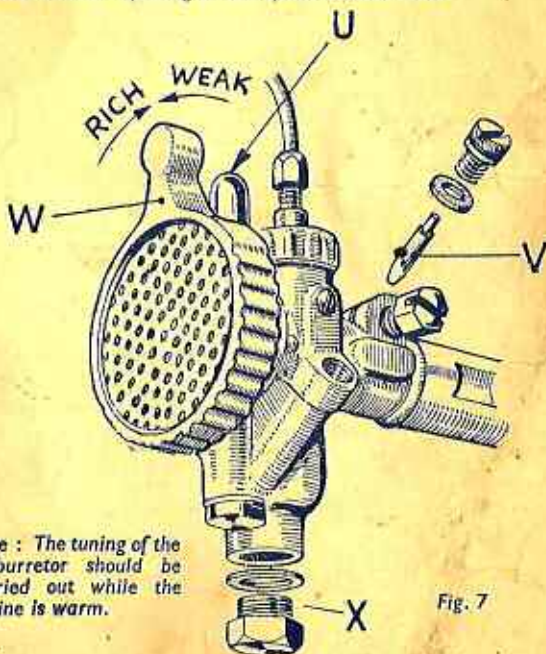

Fig. 7
Having turned on the petrol tap, depress the primer plunger "U" on the carburettor (Fig. 7) four or five times; place the mixture control in the "RICH" position (if this is the first time you have started the unit). Grasp and pull into the ratchet stop the drive control lever (long lever on left-hand side of handlebar) bringing the roller into contact with the tyre. Move the speed control lever (small lever on the right-hand side of handle-bar) to the right, thus opening the decompressor valve; mount the bicycle and pedal away. The engine will now be revolved, but will not commence firing. When speed has been gathered, move the speed control lever smartly towards the left, thereby closing the decompressor valve and opening the throttle half-way. The engine should now commence firing. Continue to pedal briskly until the engine is running smoothly, then your speed may be regulated by operation of the speed control lever.
Adjustments to the mixture may be required to suit varying climates. For cold climates a richer setting of the carburettor is obtained by substituting the existing jet "V" (Fig. 7) by a bigger jet. The size of the jet is marked on the outside. If only a minor adjustment is needed, as for instance, when changing from Summer to Winter conditions, it can be obtained by turning the air intake "W" in the direction of the arrow marked "Rich."
- (B) Oil the Control Cables.
- (C) Looking at the bicycle from the rear, check that the roller rests well on the centre of the tyre. If this is not so, loosen Bolt "C" of the sliding hinge and centralise the Unit. Make sure to retighten the bolt again. Remove all dirt from between the roller fins (if finned type is fitted).
- (D) Turn off petrol tap and remove screwed Plug "X" (Fig. 7) from the bottom of the carburettor float chamber. Turn on the petrol again momentarily to wash dirt out of the float chamber and replace screwed plug.
- (E) Check tightness of all nuts and bolts.
First depress the plunger "U" at the side of the carburettor (Fig. 7), sharply two or three times ; which action will usually clear a choked jet. If a cure is not effective, remove the screw in the side of the carburettor which allows the removal of the jet "V" (Fig. 7).
Taking the jet between the thumb and forefinger, look through the hole which runs the whole length of it. This hole must be clear and round. If necessary it may be blown through or cleaned. If the jet is clean, before replacing it check that the petrol comes freely to the carburettor. Give two or three sharp strokes with the primer plunger "U" (Fig. 7) and you should see petrol gush from the well where the jet is inserted.
If this is not the case it is shown that no petrol reaches the carburettor jet. Therefore, turn petrol tap off, remove the banjo union of the petrol pipe from the top of the carburettor and turn on the petrol momentarily to see if the pipe is clear. Within this banjo you will find the gauze filter which should be cleaned, and also it should be observed if the hole in the top of the float chamber through which the petrol flows is clear. To do this it will be necessary to remove the carburettor from the machine by loosening the clamp screw and pulling the carburettor off the inlet pipe. Fig. 7.
- (a) If it runs erratically or mis-fires it is probable that the carburettor is delivering a weak mixture. Turn the air intake "W" (Fig. 7) in the direction of the arrow "rich" and check for an improvement.